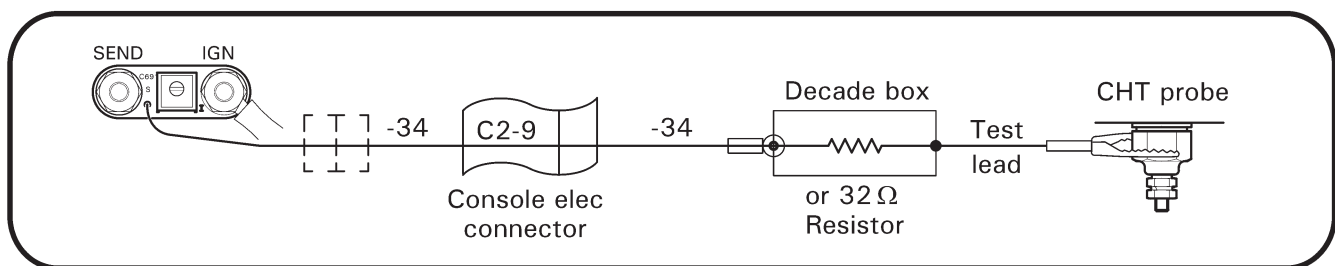

FIGURE 13-2 CYLINDER HEAT TEMPERATURE GAGE CALIBRATION
5. Refer to Figure 13-2. Adjust resistance decade box to  $32 \pm 0.4$  ohms and verify resistance with multimeter. Alternately, a  $32.0 \pm 0.4$  ohm resistor may be used instead of decade box. Connect a low-impedance ( $<1$  ohm) test lead to one terminal on decade box and clamp opposite end of lead to hexagonal body of CHT probe; do not connect lead to center conductor of sender/probe. Connect -34 wire to remaining terminal on decade box.